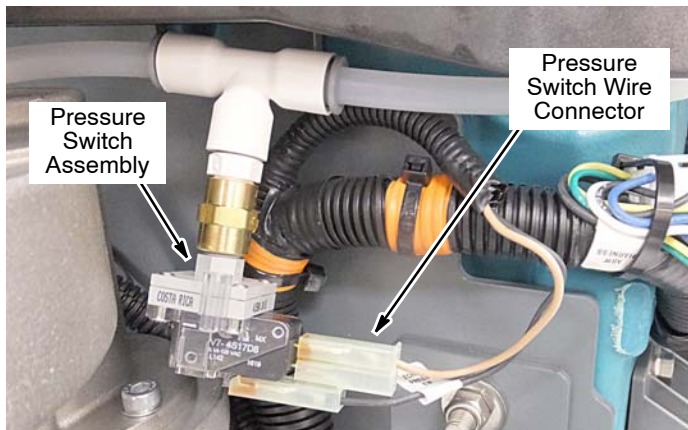

Fig. 24
12. Locate the factory installed pressure switch wire connector cable-tied to the machine harness (Figure 24). Cut the cable-tie and plug the wire connector into the pressure switch as shown. Secure the pressure switch assembly to the main wire harness with a cable-tie.